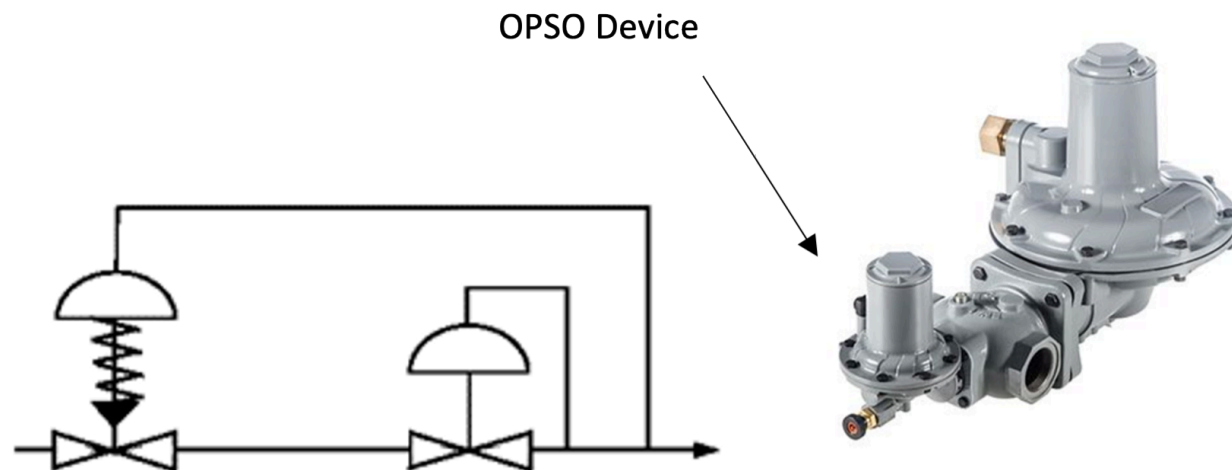

Figure 14. Overpressure shut-off
The shutoff device also accomplishes overpressure protection by containment. If an overpressure condition exists, the gas is shut off completely until the cause of the malfunction is fixed and the device is manually reset. The schematic in figure 14 indicates a spring loaded shutoff device sensing the pressure downstream of the regulator.
- Figure 14. “Overpressure shut-off” from Emerson is used for educational purposes under the basis of fair dealing.